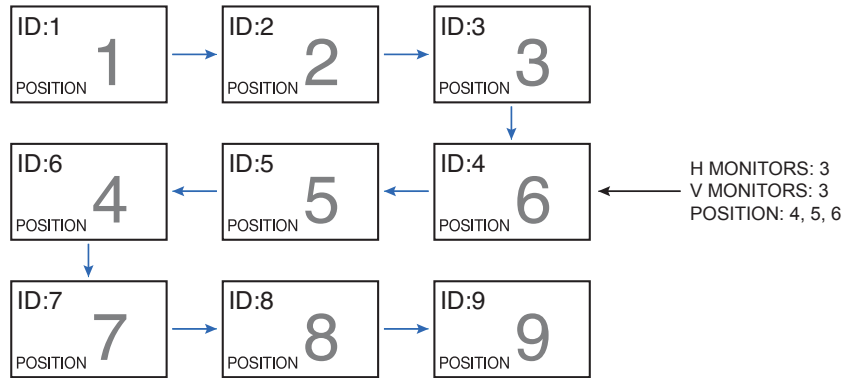

Figure 1
**TIP:** [POSITION] needs to be changed manually. Please refer to the **Figure 1**.
A portrait configuration is the same in **Figure 1**.